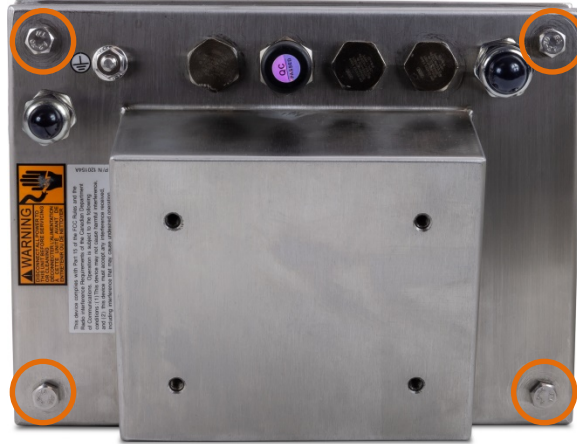

Figure 2-1: Enclosure screws
2. Unscrew the four captive screws indicated in Figure 2-1.